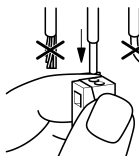

Figure 8: Connection of the single-stranded cable
- Push the single-stranded cable into the round opening on the installation side up to the stop (Figure 8).